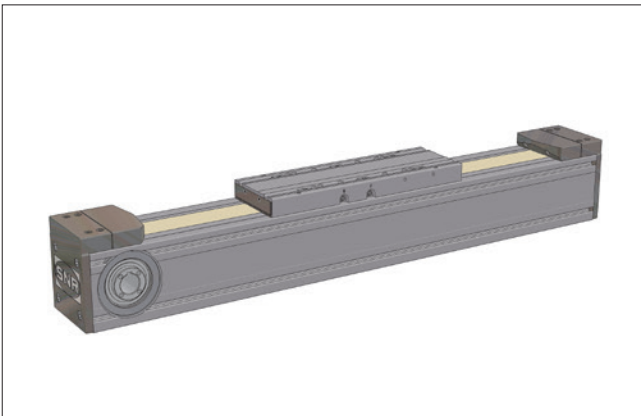

Figure 5.1 \_\_\_ AXC with toothed belt drive
- 3 drive versions – toothed belt drive, screw drive or toothed belt /  $\Omega$  - drive (Figures 5.1 up to 5.3)